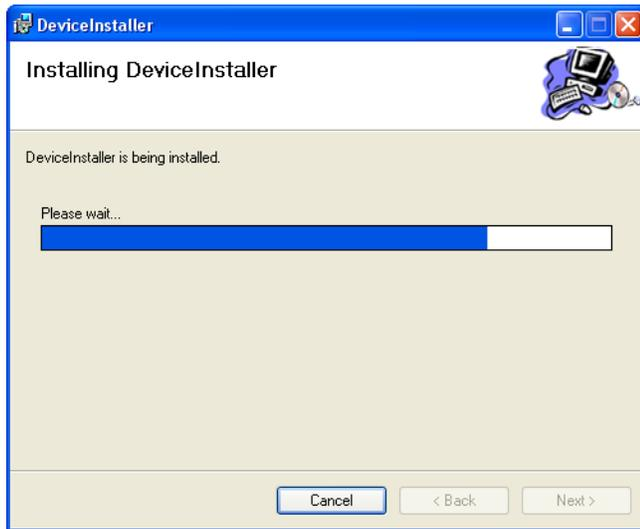

Figure 16: Installation Progress Window
9. To begin the DeviceInstaller installation, click on the  button. An installation progress window appears (see Figure 16).